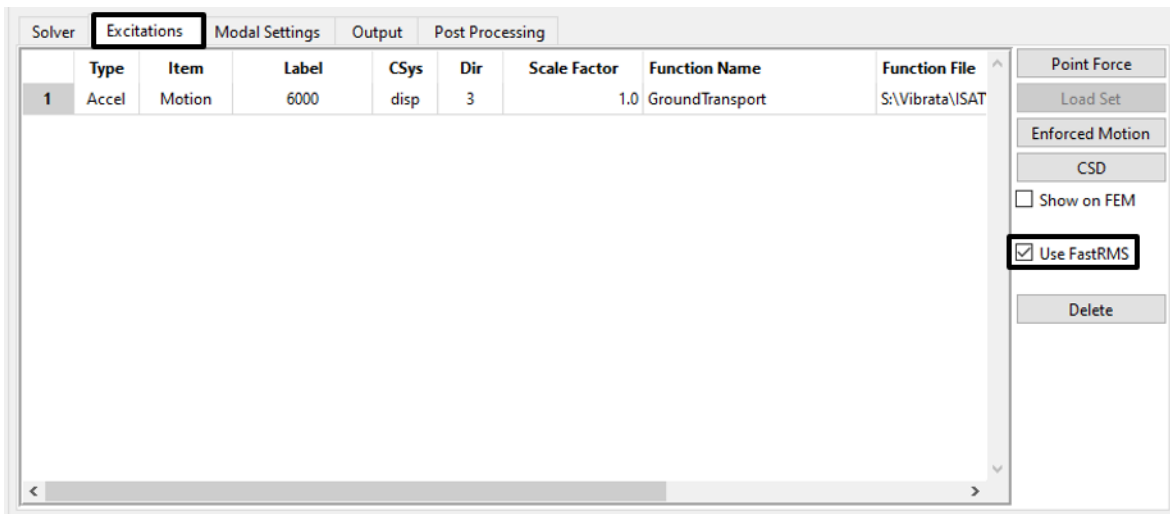

Figure 4-68. Turn on the *Use FastRMS* toggle on the *Excitations* tab.
2. On the *Excitations* tab, turn on the *Use FastRMS* toggle (Figure 4-68). That is the only change needed for the new event.